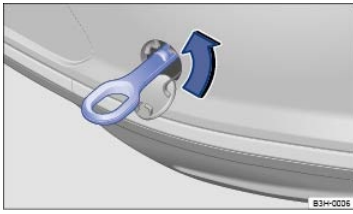

Fig. 171 In the right rear bumper: Installing the towing eye.
There is a threaded hole for the towing eye in the right rear bumper behind a cover ⇒ Fig. 171.
- Screw the towing eye **counterclockwise** into the threaded hole as far as it will go (arrow) ⇒ Fig. 171 ⇒ . Use the lug wrench to turn and tighten the towing eye.